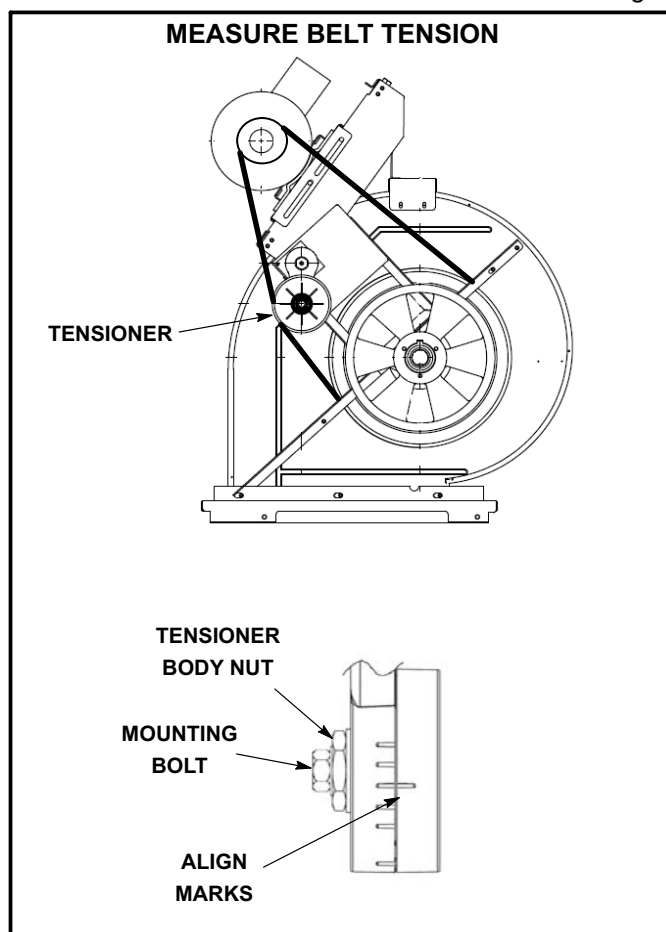

FIGURE 13
- 1- Loosen the bolt in the center of the tensioner. See figure 13.
- 2- Place belt over all three pulleys as shown in blower assembly figure 13. Tensioner pulley must be oriented toward blower, not motor.
- 3- Using a 15/16" wrench on the tensioner body nut, turn the tensioner nut until marks align as shown in figure 13 (3rd mark).